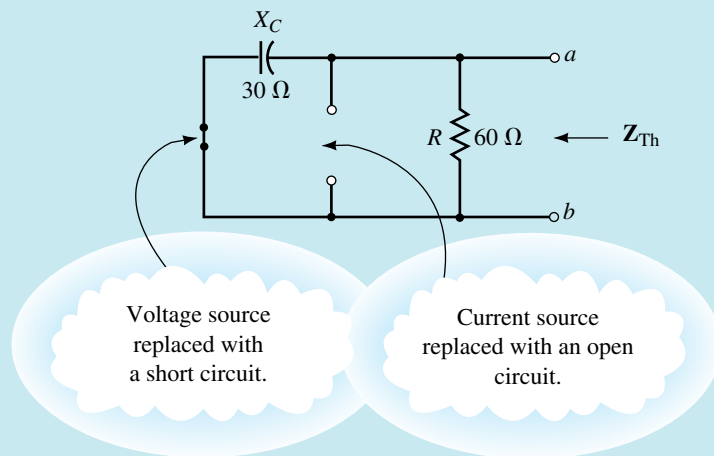

FIGURE 20-20
Step 2: After setting the voltage and current sources to zero, we have the circuit of Figure 20-20.